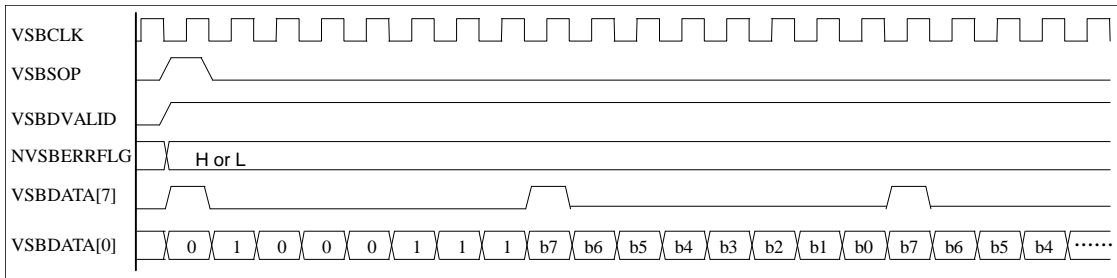

Figure 6.6.14 I/F to Transport Demultiplexer at Serial Output Mode
- 3) the VSBDATA[6:1] signals are set to "000000". See Fig. 6.6.14.